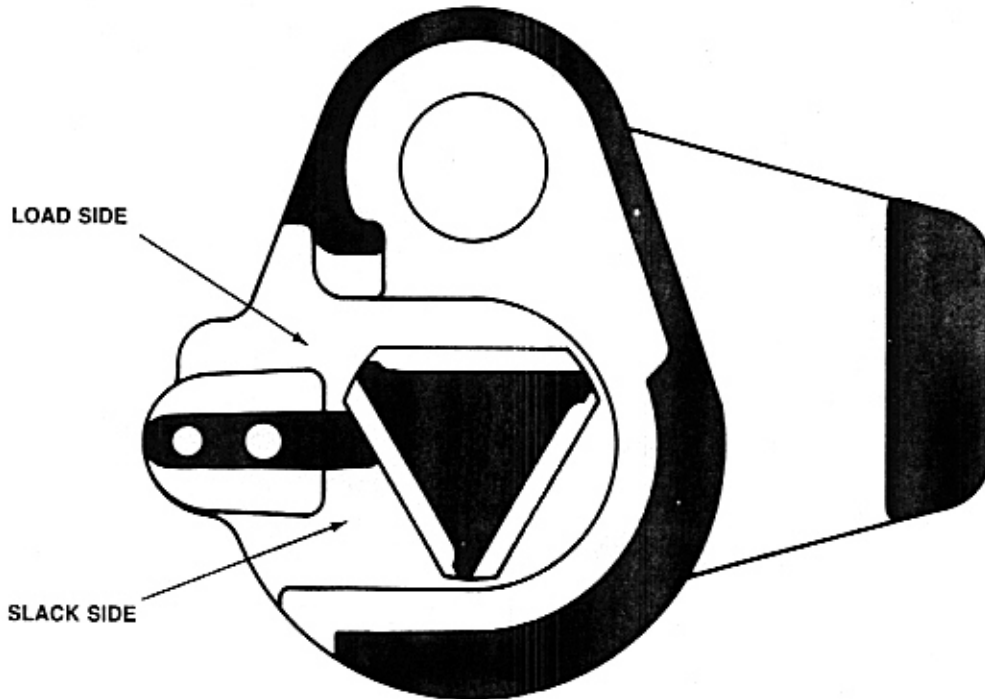

FIGURE 5-2
b. Align load sheave pocket with chain shedder per Figure 5-2. Load sheave will not accept chain unless this step is performed.